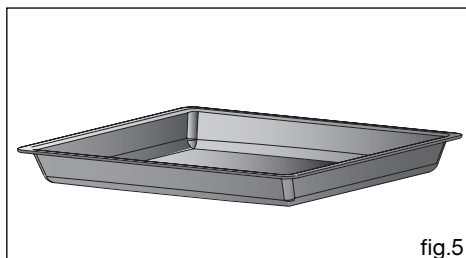

fig.5
• **Plat multi usages 45 mm (fig.5)**